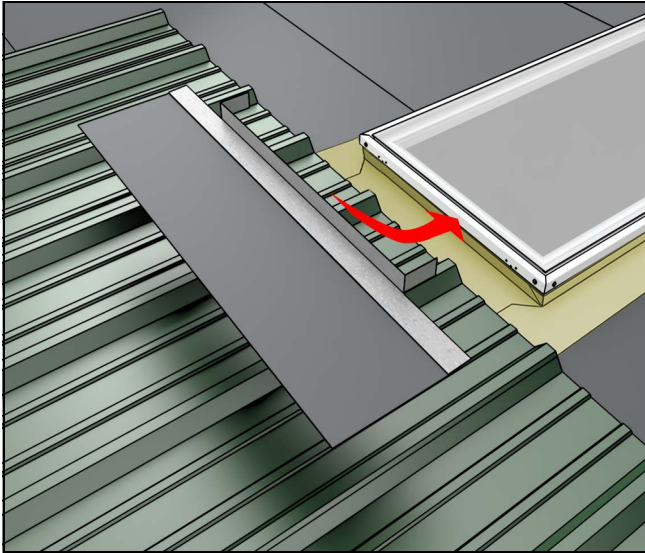
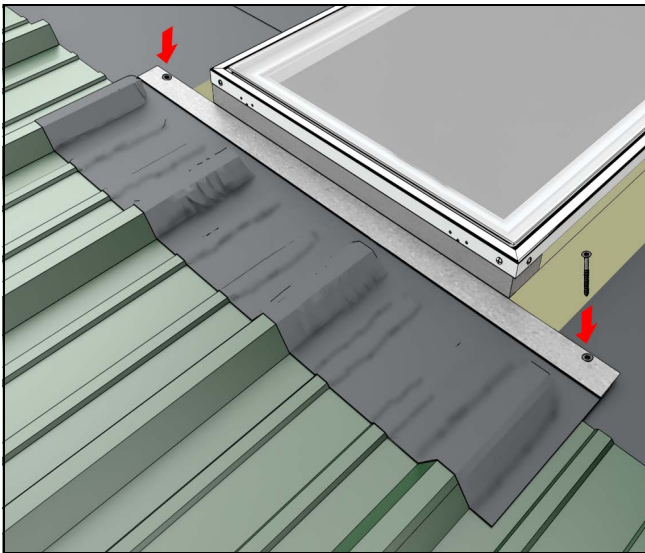

Figure 48
Figure 49
2. Center the sill apron assembly on the sill of the skylight, bend tabs in, seat firmly to unit and deck. See Figure 48. Remove adhesive backing and press firmly at seams to allow for proper drainage and fasten with roofing nails. See Figure 49.